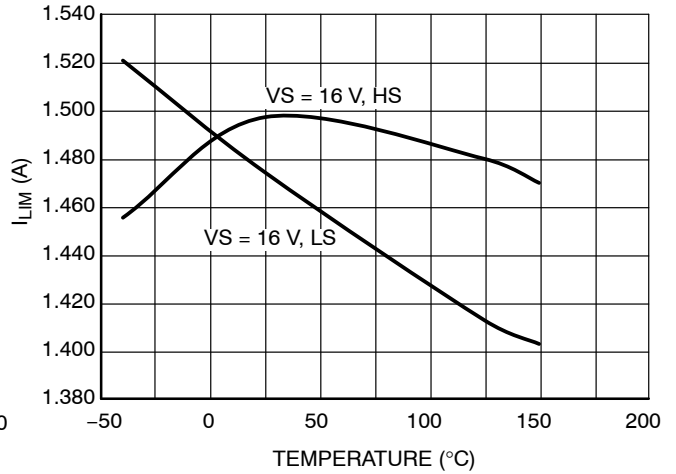

Figure 13. Output Over Current vs. Temperature
11. Refer to Figure 13 for current limit behavior.